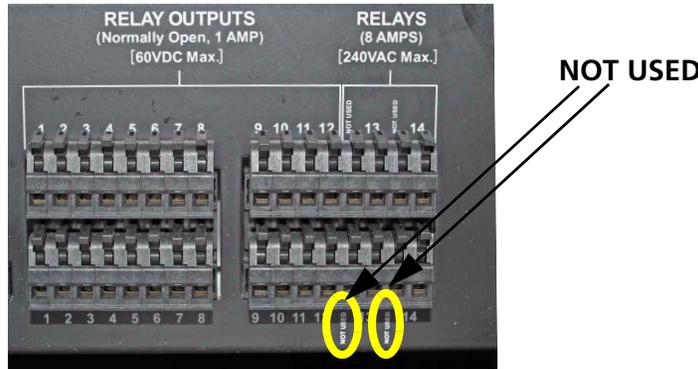

Figure 2-12 Relay Outputs
**NOTE:** Two connector pins are “NOT USED” as identified in **Figure 2-12**. Refer to Section 6 Specifications for more information.